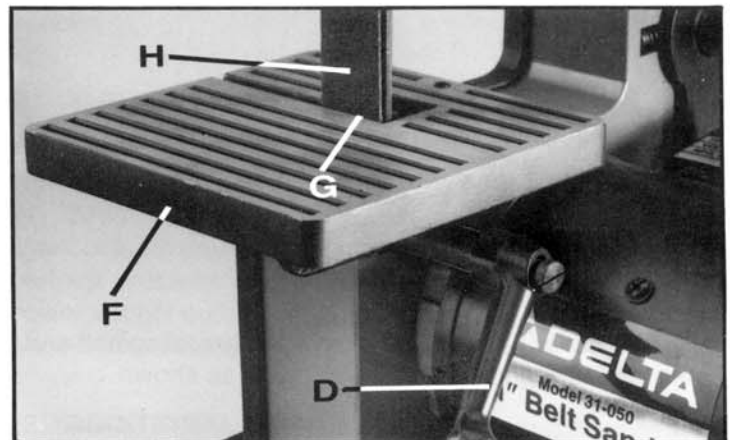

Fig. 6
5. The table (F) is shown completely assembled to the sander in Fig. 6. **NOTE:** The locking handle (D) is spring-loaded and can be repositioned by pulling out the handle and repositioning it on the serrated nut located underneath the handle. **WARNING: TO AVOID TRAPPING THE WORK OR FINGERS BETWEEN THE TABLE AND SANDING BELT, THE TABLE EDGE (G) SHOULD BE POSITIONED A MAXIMUM OF 1/16 INCH FROM SANDING BELT (H), AS SHOWN IN FIG. 6.**